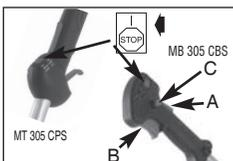

Fig. 9B
1. Press ON/OFF switch to the "RUN (I)" position (Fig.9B).
- 3b. For Bike handle "↗", set throttle lock (C): Press the lockout switch (A) down and then holding trigger (B) at partially open position, press down and hold throttle lock (C). Release throttle trigger (B). Throttle trigger (B) will now remain in the partially depressed position (Fig. 9B). (MB 305 CBS)